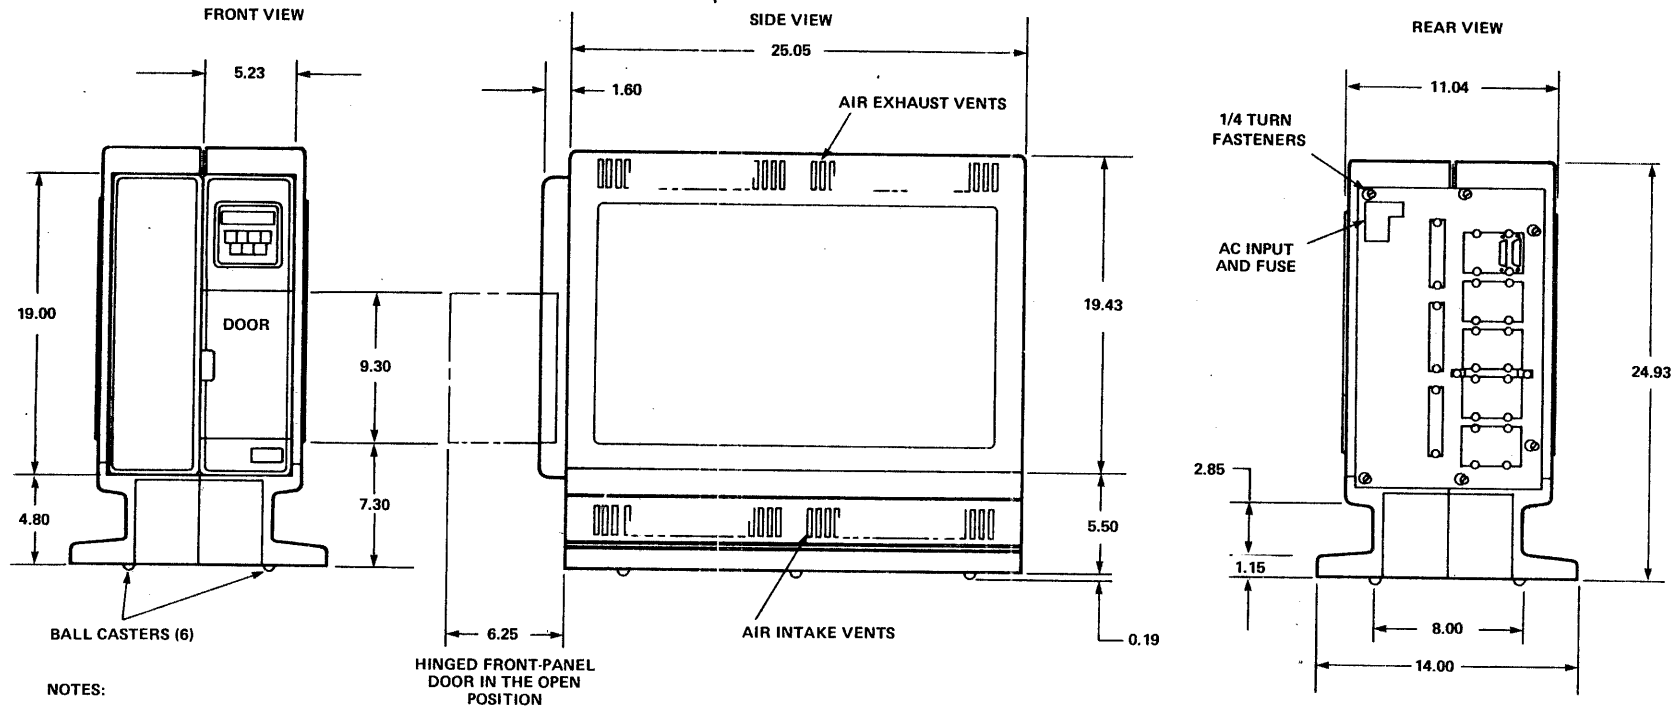

Fig. G-2 SMS 1000 Model 50 Outline drawing: Floor-mounted systems
2. FUSE SELECTION. Using a small screwdriver, carefully pry open the fuse- and voltage-select door at the rear of the enclosure, as shown in Figures G-2 or G-3. There is a slot for prying open the door at its left edge.
2. Using a small screwdriver, carefully pry open the door of the fuse- and voltage-select compartment on the rear of the enclosure. There is a slot for prying open the door, at its left edge. Be careful not to disturb the voltage-selection cam at the left side of the compartment. See Figures G-2 or G-3 for compartment location.